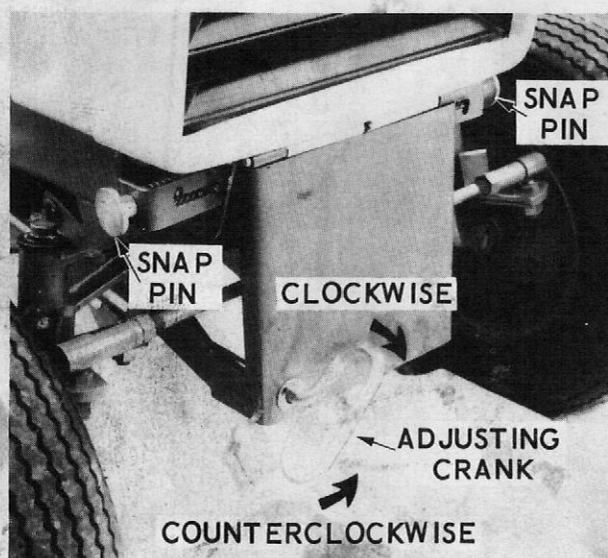

Figure 15.
2. Before attaching the mounting bracket on Model 220 or 222 tractors, turn the adjusting crank counterclockwise as far as possible to provide mounting clearance at the front axle. See Figure 15. This step is not required for the Model 442 or 444 tractors.